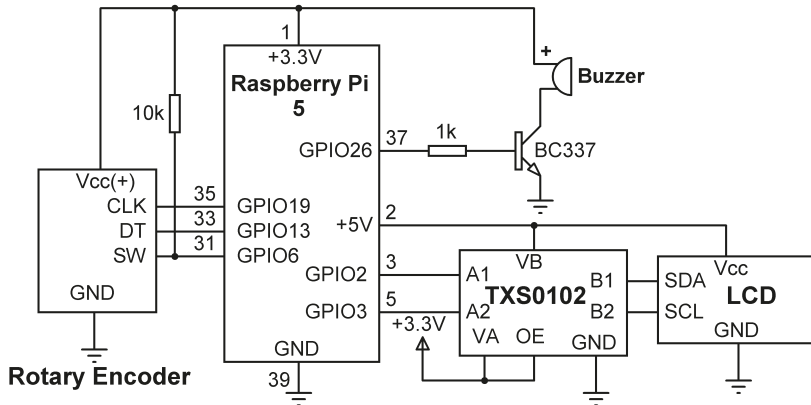

Figure 4.50: Circuit diagram of the project.
**Circuit Diagram:** Figure 4.50 shows the circuit diagram of the project. The I2C LCD is connected to Raspberry Pi 5 as in the previous LCD based projects, where the SDA and SCL pins are connected to GPIO2 and GPIO3 respectively. The buzzer is connected to pin GPIO26 through a transistor switch. The rotary encoder is connected as follows: